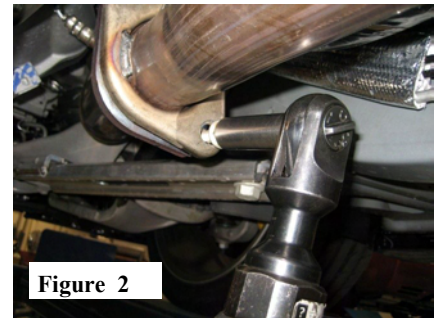

Figure 2
2. Unbolt (4) front flange bolts and put aside for installation later. (See Fig.2)